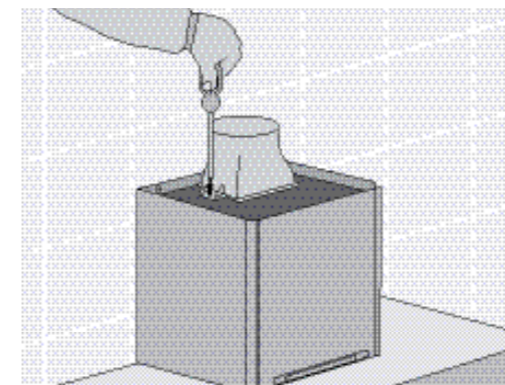

Fig. 8
- Fix exhaust transition duct using screws supplied (Fig. 8).